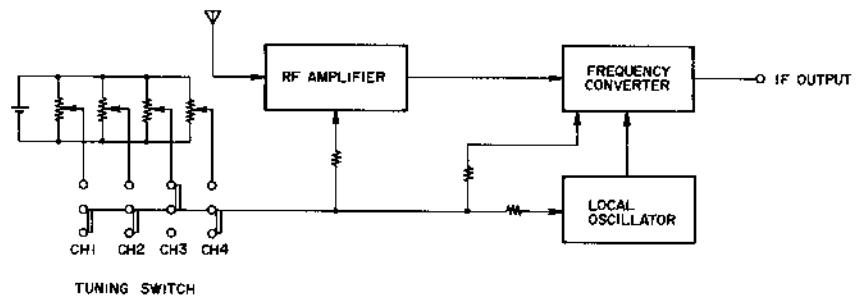

Fig. 6 Block Diagram
2) An example of a station selection system employing a varactor tuner is shown in Fig. 6. For station selection, push switches are used for selection of voltage supply to the varactor tuner. However, in the AA-1010L, these station selection push switches are pure electronic system sensi-touch switches.